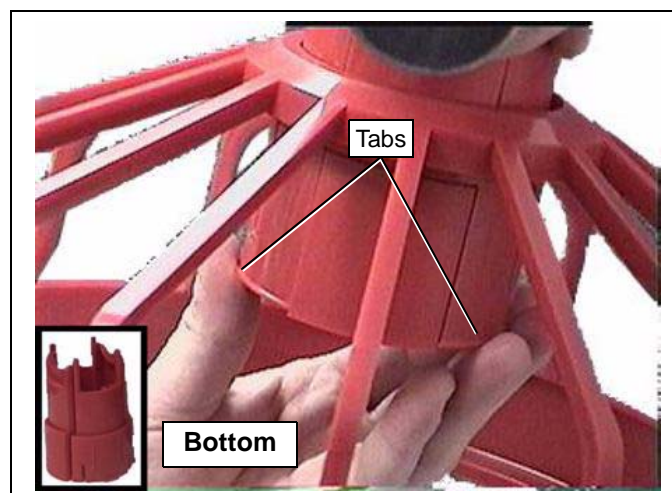

Figure 7E
3. Slide the bottom piece of the two-piece drop tube into the top piece, making certain the tabs are locked in place. (See Figure 7E.)